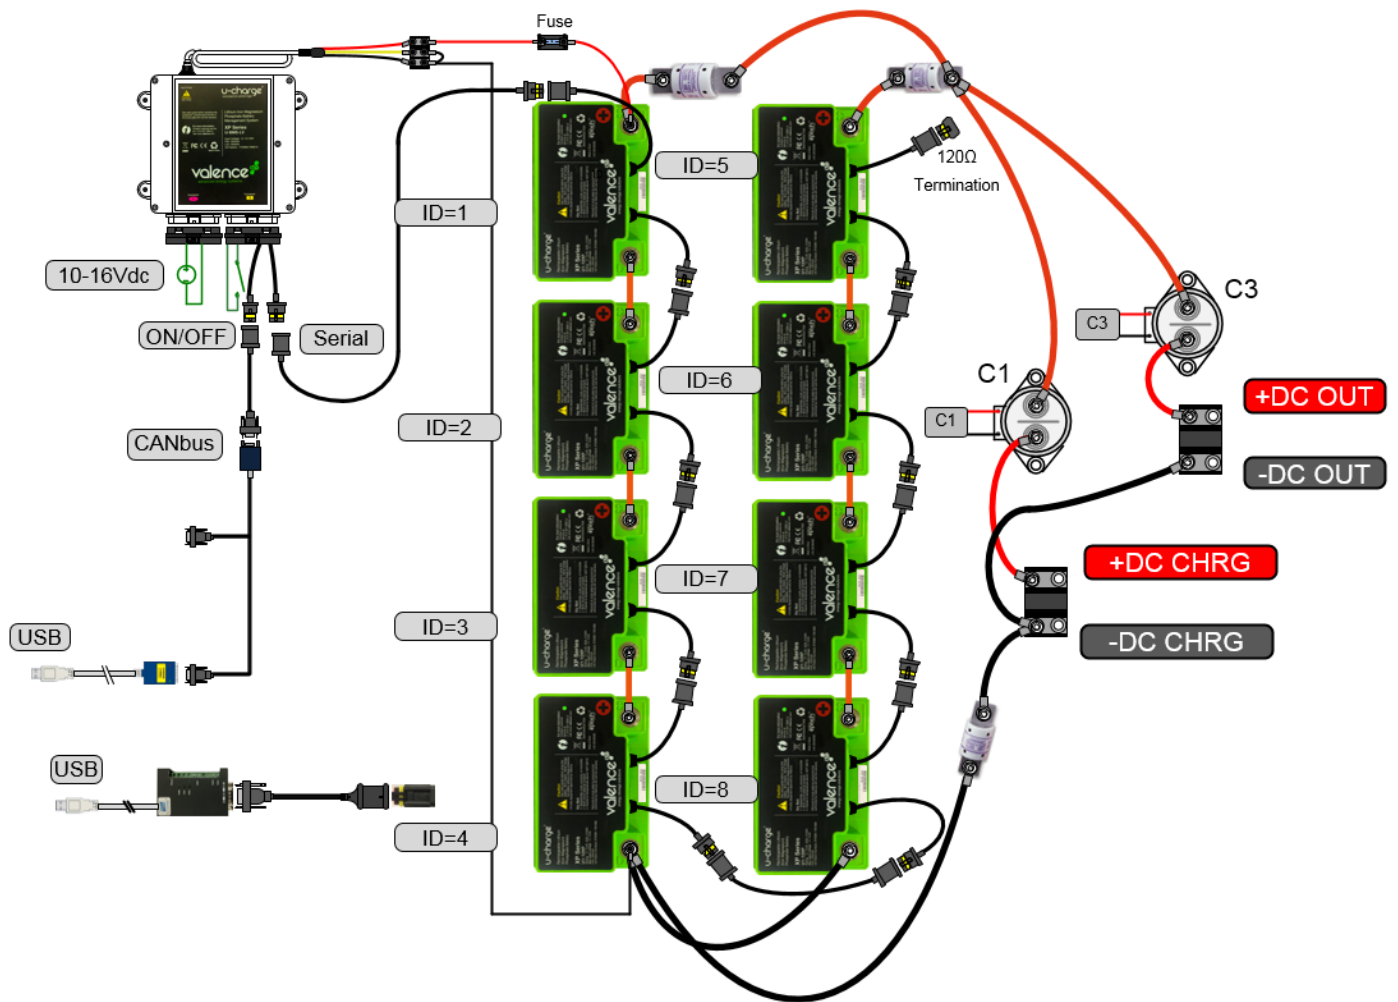

Figure 6-6: Parallel and Series Connection
Series parallel configurations allow both the voltage and capacity to increase. The configuration in this example is known as 4S2P, shown below in Figure 6-6.
The internal resistance of the modules is very low in comparison with other battery technologies. Special care is required to ensure that interconnect cables of identical resistance, the same gauge and length are installed. The system connections to the pack (+DC Out and –DC Out) are deliberately offset as shown in Figure 6-6 below.
5. Install a properly sized in-line fuse in the center or at the end of each series string as shown in Figure 6-6. Install flexible insulated copper interconnect cables of the appropriate gauge for all